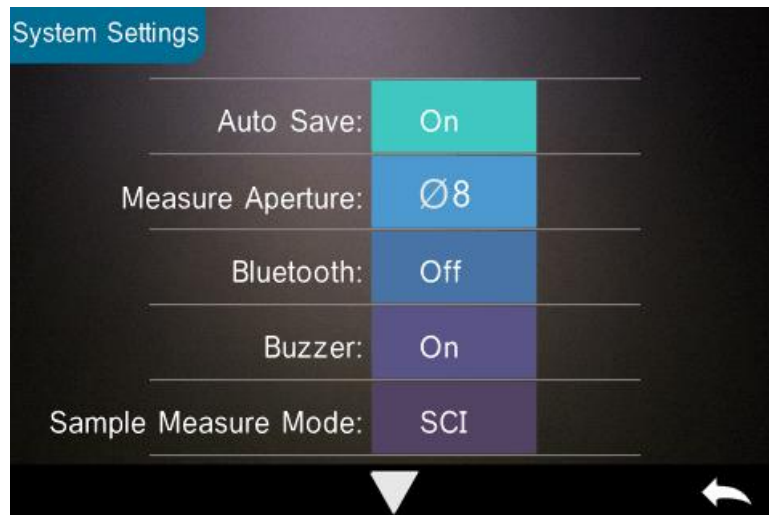
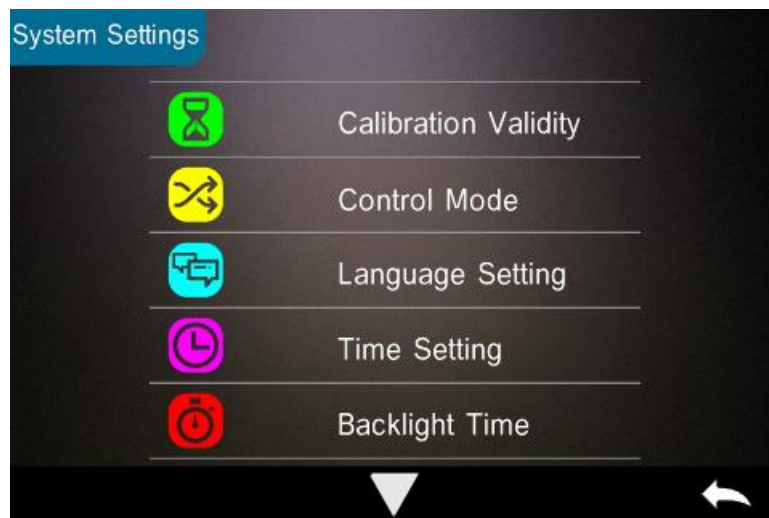
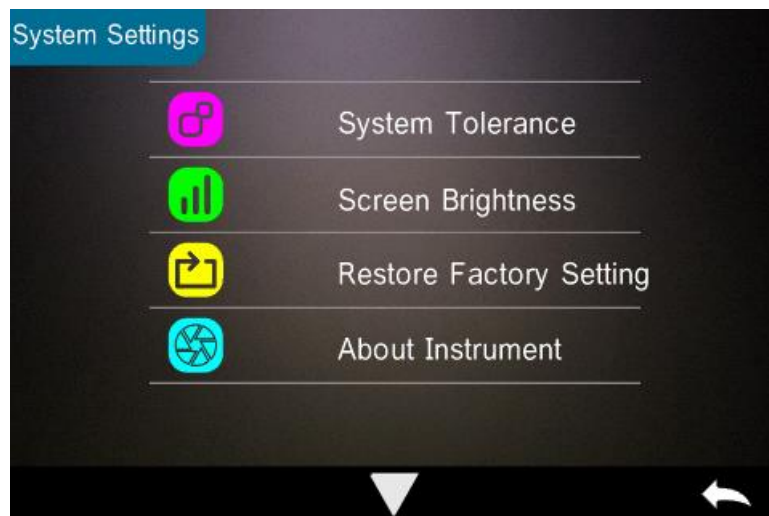

Figure 44 System Settings
Figure 45 System Settings
Figure 46 System Settings
In the main menu, click “System Setting” as shown in Figure 44, Figure 45 and Figure 46.
Step 3: Switch the default system measurement aperture to correspond with the actual measurement aperture. As shown in Figure 44, the current measurement aperture is  $\Phi$  8mm. After switching the measurement aperture, you have to re-calibrate the instrument according to part 2.2.